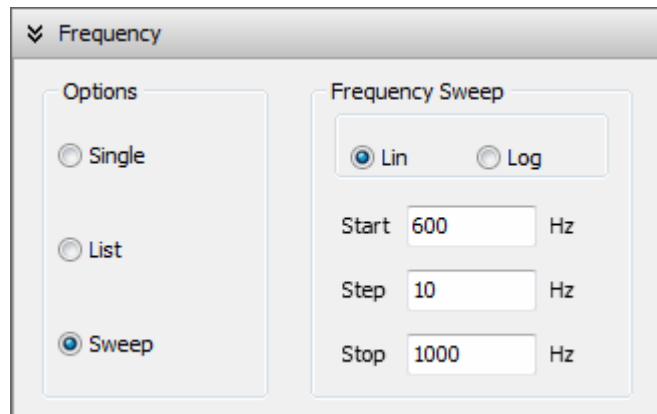
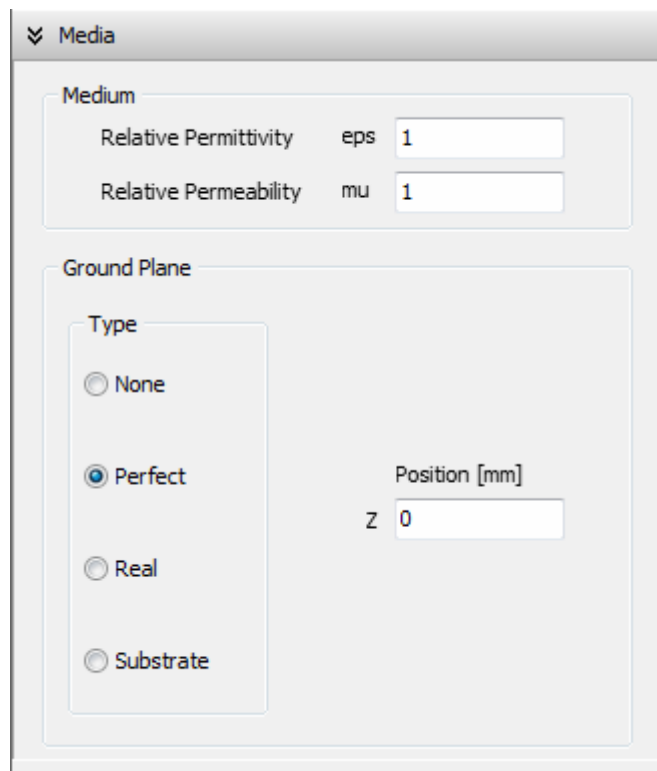

Fig. 14.15: The Frequency panel in the Configure tabsheet. The simulation is performed at the frequencies: 600, 610,... ,990, 1000 Hz.
Fig. 14.16: The Ground Plane option in the Configure tabsheet.
Step 1: Go to Edit/Preferences in the main menu and select the Hz , mm, mH and uF as the units for frequency, length, inductance and capacitance, respectively. Then, choose Simulate/Configure... in the main menu. In the Frequency panel of the Configure tabsheet choose "Sweep" and fill the "Frequency Sweep" box as shown in Fig. 14.15. Then, choose the Ground page and fill it as shown in Fig 14.16.